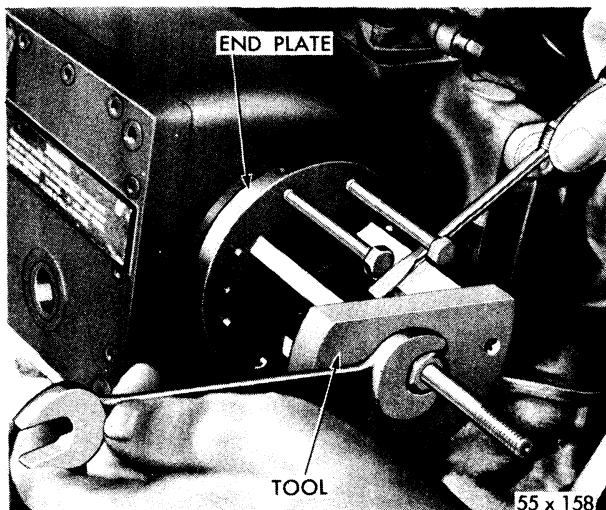

Fig. 19—Installing Bearing End Plate
- (2) Install gasket, end plate and two long screws at opposite sides of end plate.
- (3) Start end plate squarely and tighten screws evenly finger tight. Install puller, as shown in Figure 19.
- (4) While holding compressor shaft with screwdriver, turn puller screw to pull bearing end plate into compressor housing.
- (5) Remove puller, install end plate screws and tighten screws evenly to 20 foot-pounds torque.
- (6) Coat carbon seal with refrigerant oil and place over shaft positioning tangs on carbon in the recesses in the bearing end plate.